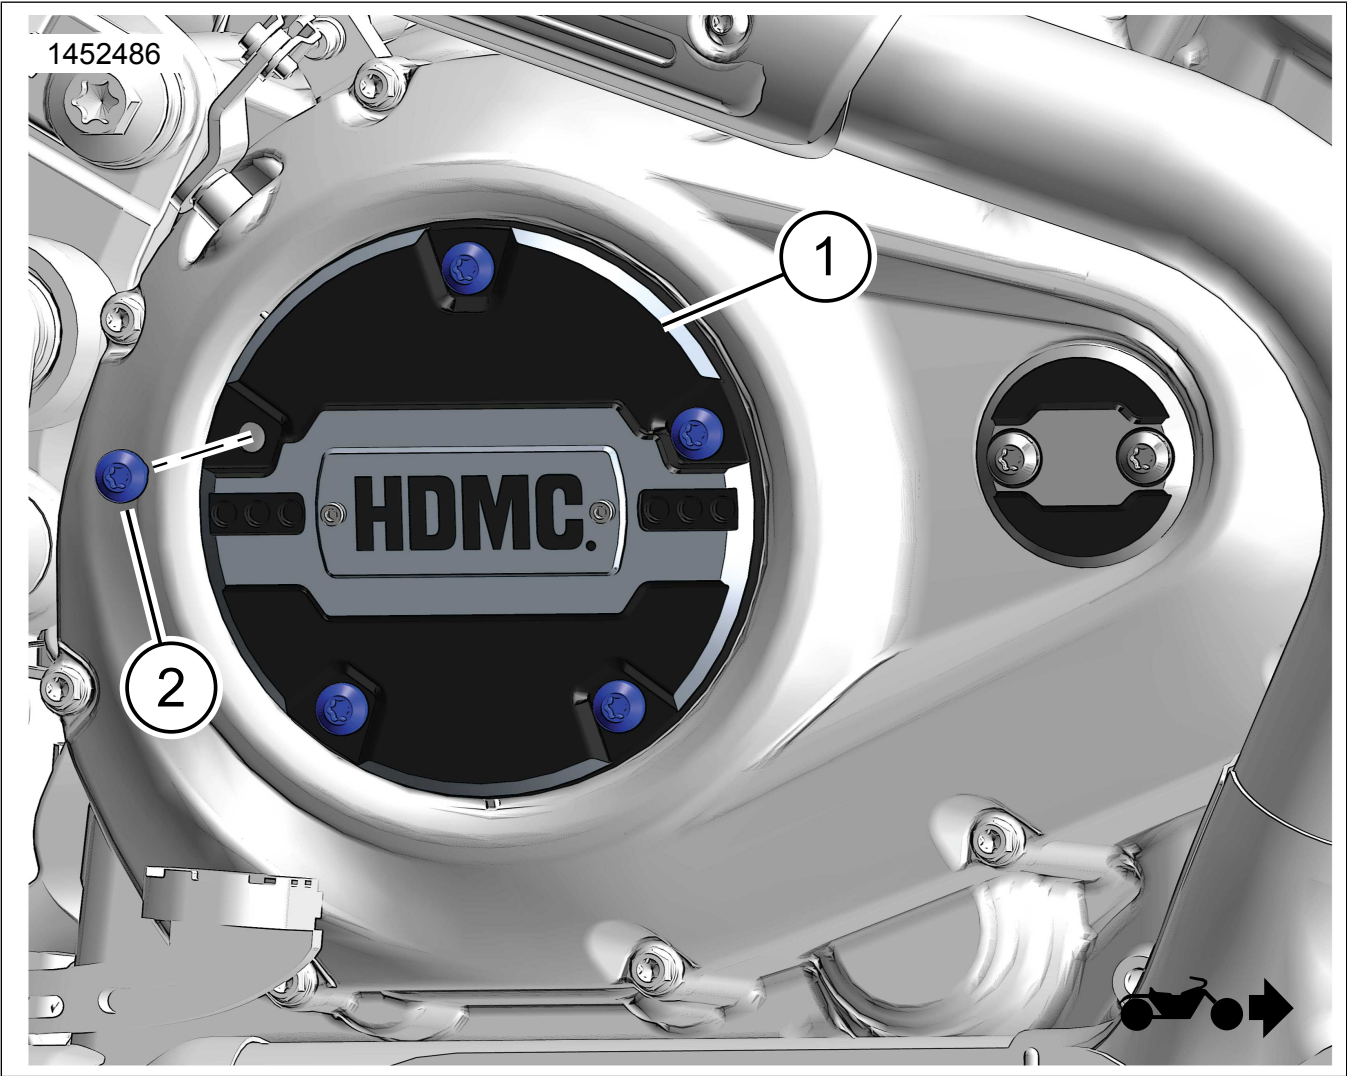

Figure 1. Kit Contents: Clutch Cover Kit
1. See Figure 1. Install clutch cover (1).